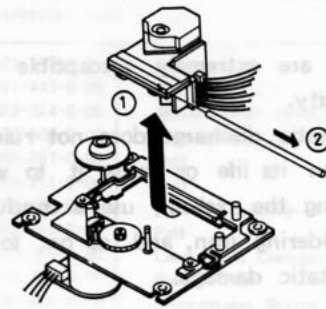

Figure 10
6. Take out the pick-up ①. Then pull out the shaft ②. (See Figure 10.)